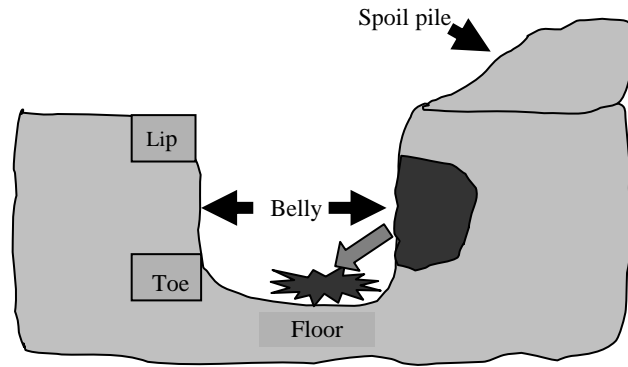

Figure 1-4
- Belly/Slough In (Figure 1-4)